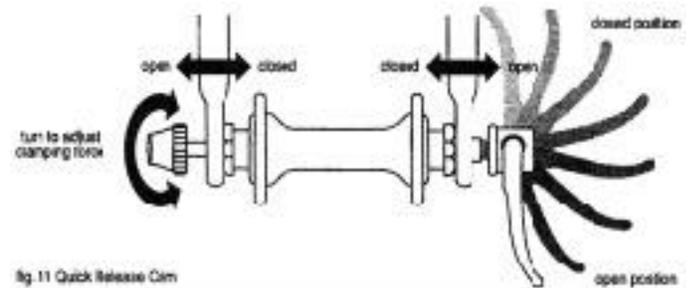

Fig 11 Quick Release Cam
While it looks like a long bolt with a lever on one end and a nut on the other, the wheel quick release uses a cam action to clamp the E-Bike®'s wheel in place (see Fig. 11).
(2) Rotate the wheel's quick-release lever from the locked or CLOSED position to the OPEN position (Fig.11,12&13).
(3) If your front fork does not have a secondary retention device go to step 5.
(4) If your front fork has a clip-on type secondary retention device, disengage it and go to
(1) Rotate the quick-release lever so that it curves away from the wheel (Fig. 11 & 13). This is the OPEN position.
(2) With the steering fork facing forward, insert the wheel between the fork blades so that the axle seats
(3) Holding the quick-release lever in the OPEN position with your right hand, tighten the tension adjusting nut with your left hand until it is finger tight against the fork dropout (Fig. 11).
(4) While pushing the wheel firmly to the top of the slots in the fork dropouts, and at the same time centering the wheel rim in the fork, rotate the quick-release lever upwards and push it into the CLOSED position (Fig. 11 & 12). The lever should be parallel to the fork blade and curved toward the wheel.